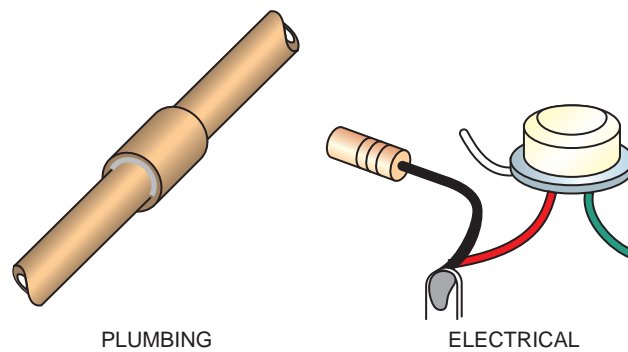

FIGURE 5-5 Examples of permanent joints that can easily be disassembled and the parts reused.
- May be permanently or temporarily joined—Since the base metal is not damaged, parts may be disassembled at a later time by simply reapplying heat. The parts then can be reused. However, the joint is solid enough to be permanent, **Figure 5-5**.